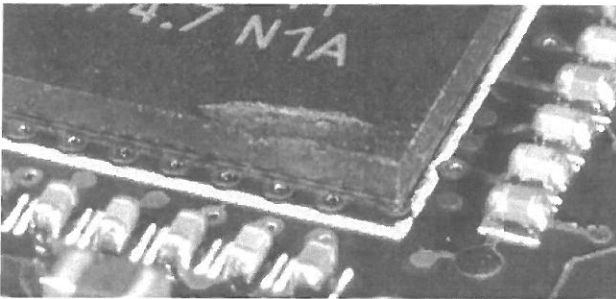

Figure 9-13
- Damaged area shows no evidence of increasing, e.g., rounded edges of the damage with no cracks, sharp corners, brittle material from heat damage, etc., Figures 9-13, 14.